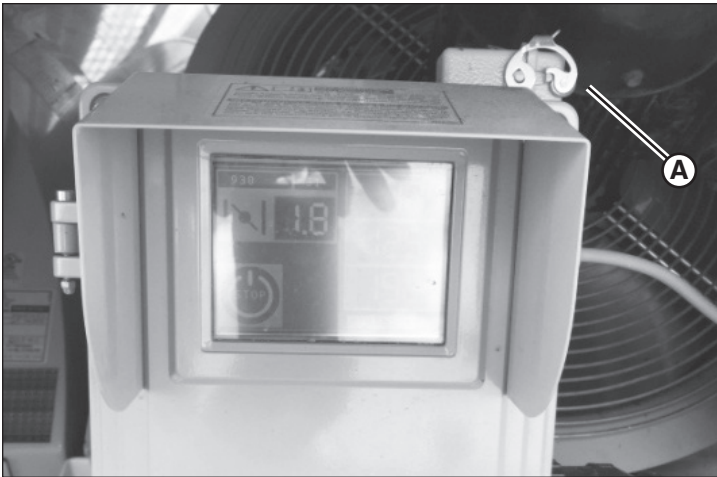

Figure 35
3. Locate the receptacle for the remote thermostat at the upper right of the heater unit control module (A, Figure 35).